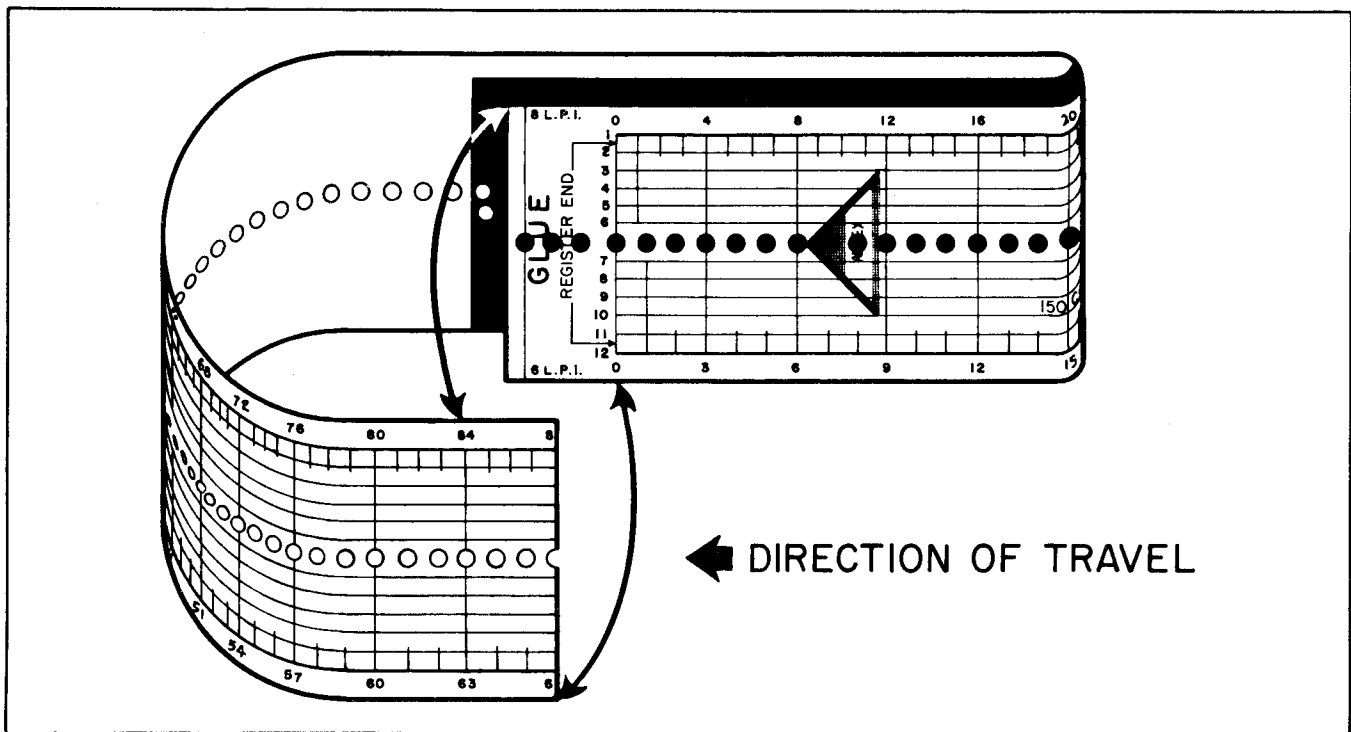

Figure 4-3. Channel Designations
Format Tape (Figure 4-3) - Part No. 87723
4. Place the format tape in a vertical position with the column of sprocket holes appearing to the right of the sample form, and visualize the location of the 12 possible channels which may be punched onto the tape. Channel designations are shown in Figure 4-3.